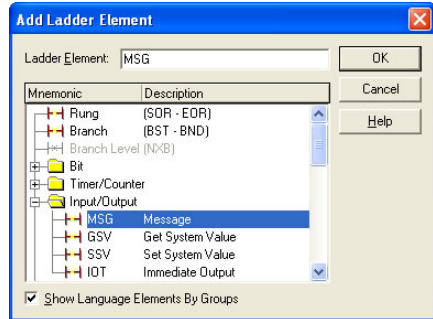

Figure 95: Adding a MSG Instruction
- Select the “MSG” instruction in the Input/Output folder. Refer to Figure 95.